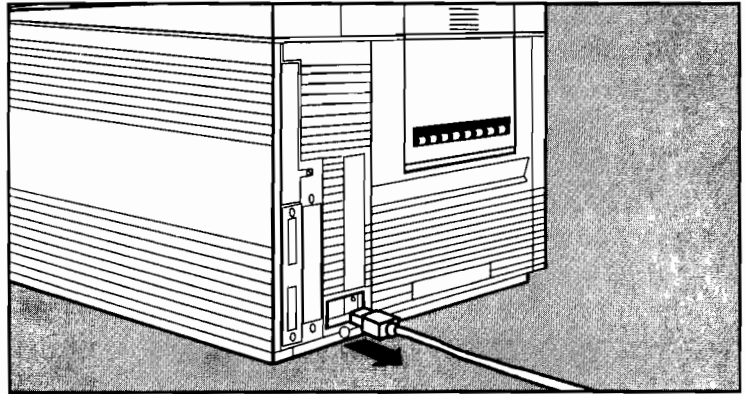

Figure 3-4. Unplugging the Printer
1. Turn the printer off and unplug the power cord from the printer. See Figure 3-4.